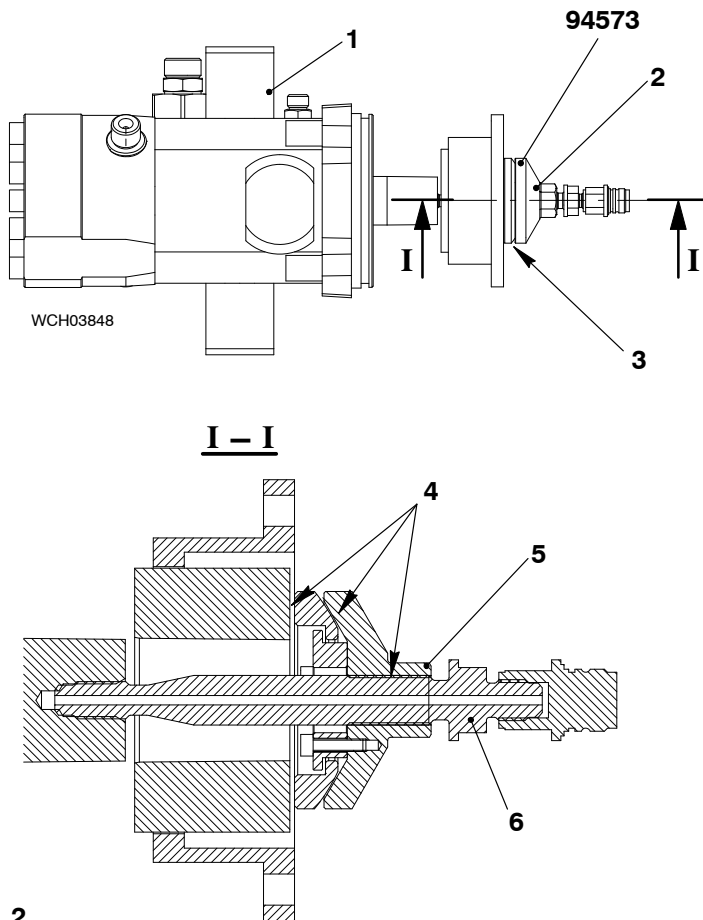

Fig. 2
- 11) On the assembly tool (94573, Fig. 2), turn fully back the special nut (2).
- 12) Apply Molykote G-Rapid Plus to the surfaces (4).
- 13) Attach the adapter piece (6) to the shaft of the pilot fuel pump (1).
- 14) Torque the adapter piece (6) to 45 Nm.
- 15) Turn the special nut (2) until touches the spherical disc (3). Do not tighten the special nut.
- 19) Turn back 5.0 mm the special nut (2). Make sure that the hydraulic force pushes the coupling half against the spherical disc (3).